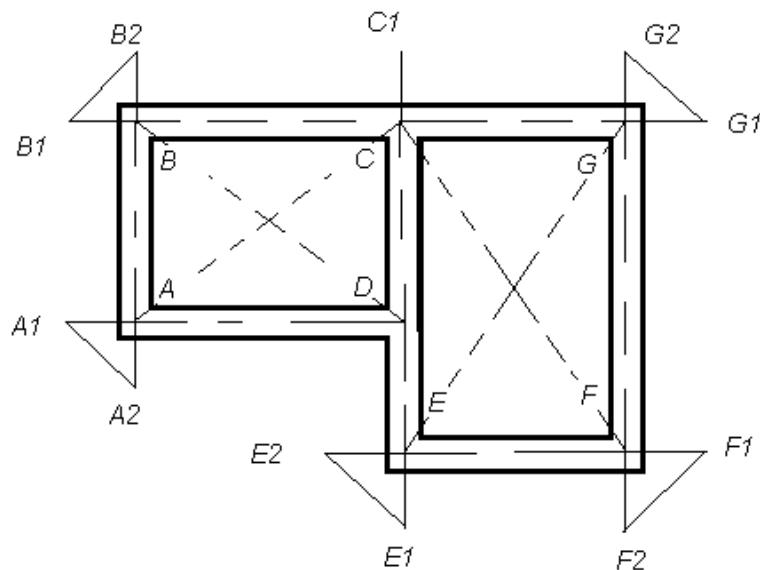

Fig.1: Example plan to be set out on the ground
1. From the Example plan (fig 1), the centre line of the walls is determined first. Then the centre lines of the rooms are set out by setting perpendiculars in the ratio 3:4:5 as explained below.
3. Follow the same process at all the points on the corner B, C, D, E, F and G and mark them with the help of a pegs and complete the traverse on the ground as given in the plan fig (3)
4. After setting the corner points A, B, C, D, E, F and G, check the distances between points AC, BD, CF, EG according to the distance between the diagonals which are calculated from the given plan in fig (2).
5. Now mark the excavation width at equal distance from the central line with arrow and lime at appropriate positions as mentioned in the plan fig (3).